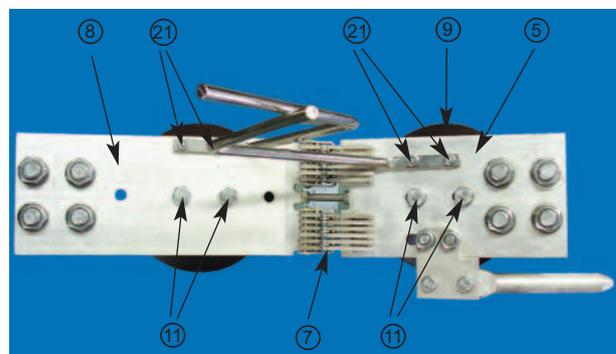

Fig. 32: Removal/Installation of main contact system
- Remove contact plate with contact finger (8) from the fixed insulator (12) by releasing the two fastening bolts M 10x25 (11) (Fig. 32)
- Install new contact plate with contact fingers (8) on the fixed insulator using the two fastening bolts M 10x25 (11) and tighten slightly
- Check linear alignment of the new contact plate (8) toward the moving connecting plate (5) using a straight edge.
- Tighten fastening bolts M 10x25 (11) of contact plate (8) (tightening torque: 32 Nm)